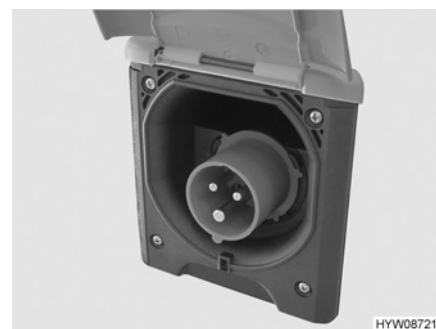

Fig. 74 240 V connection on the vehicle (CEE socket outlet)
- Open the cover of the 240 V connection on the vehicle (Fig. 74) and insert the plug connector. Ensure that the detent of the spring-mounted pivoting cover is engaged in position.